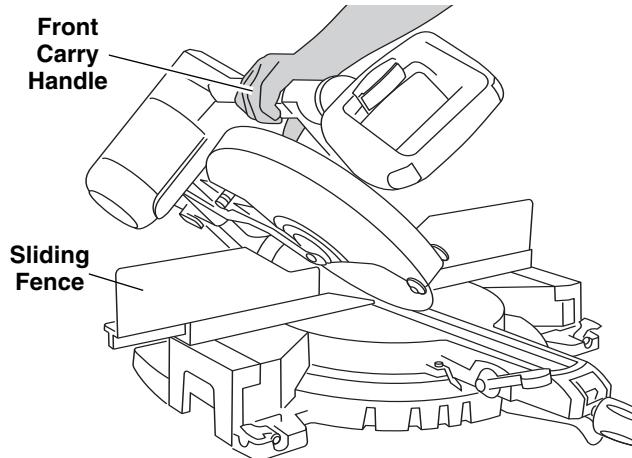

Figure 2.
- a. Extend left sliding fence to clear saw assembly and re-lock (Figure 2).
- c. Grasp the front carry handle with right hand and tilt saw head to angle desired (Figure 2).
- a. Extend right sliding fence to clear saw assembly and re-lock (Figure 2).
- c. Standing on right side of saw, grasp the front carrying handle with right hand and tilt saw head slightly to the left while rotating the bevel range selector knob with left hand to "0-45° Right" (Figure 2).
- a. Move left or right sliding fence to clear saw assembly and re-lock (Figure 2).
- slightly to the left while rotating the bevel range selector knob with left hand to "Max Range" (Figure 2).